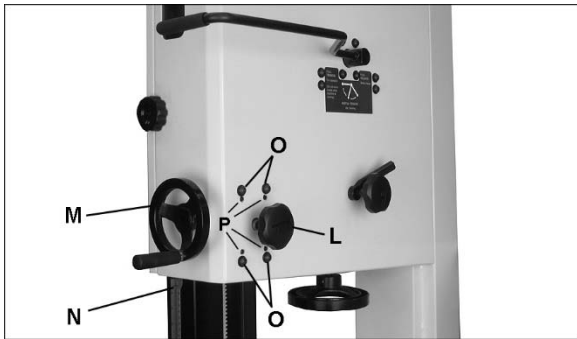

Figure 7-20
Refer to Figure 7-20.
4. Loosen lock knob (L, Figure 7-20) and raise guide post to a high position.
6. If guide post does not go straight up and down (blade begins deflecting when guide post is raised), slightly loosen the screws (O) and turn any of the set screws (P) as needed to bring guide post into line.
7. When finished adjusting, securely tighten the four screws (O).